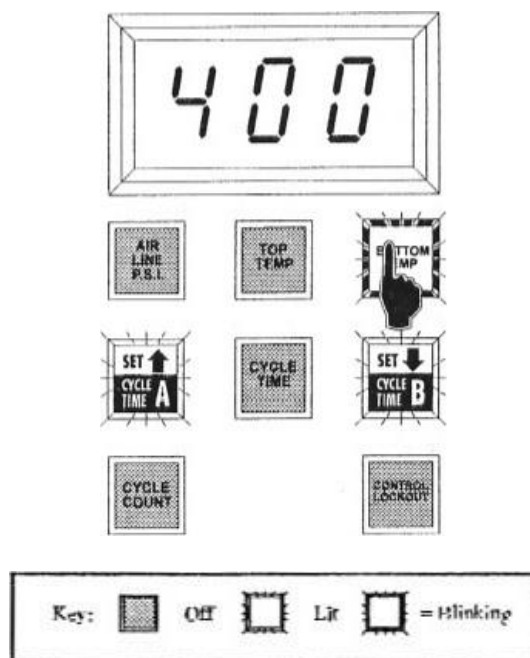

Figure 7-1
- While the control panel is in Monitoring Mode, press and hold the Bottom Temp button. After approximately two seconds, the panel's Up Arrow and Down Arrow buttons will light and the Bottom Temp button blinks, as shown in Figure 7-1. This puts the control panel in the Set Mode. Release the Bottom Temp button. The control panel displays the current setting for the bottom platen temperature (not the actual temperature, as shown in Monitoring Mode); if the platen is set to off, the control panel displays three dashes.